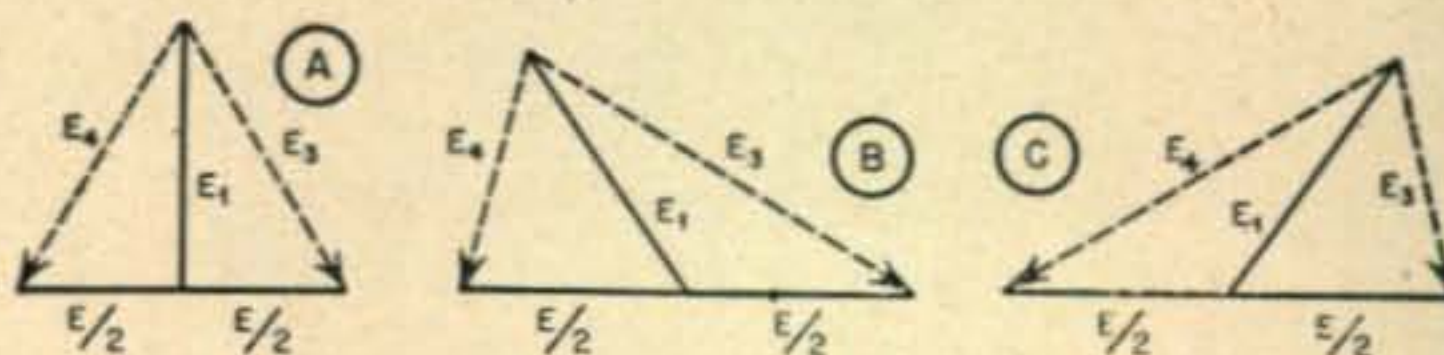

Figure 6
1.—Cut the detector-oscillator mounting plate and the tank coil support from $\frac{1}{8}$ " sheet Mykroy as indicated in *Fig. 6*, A and B respectively. Jig-drill the "A" holes in the top of the chassis, using the detector-oscillator mounting plate as a guide.